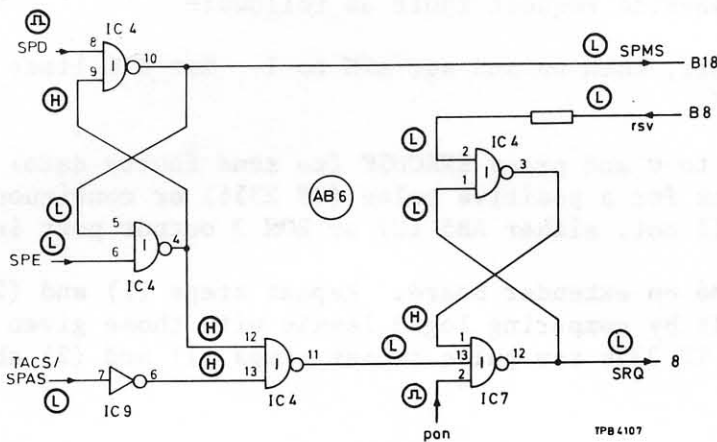

Fig. 6 'NPRS fault' logic levels (pulses occur at switch-on)
- (1) Place AB6 on extender board and switch on. If SRQ lamp is still on, localize fault by comparing logic levels with those given in Fig. 6.